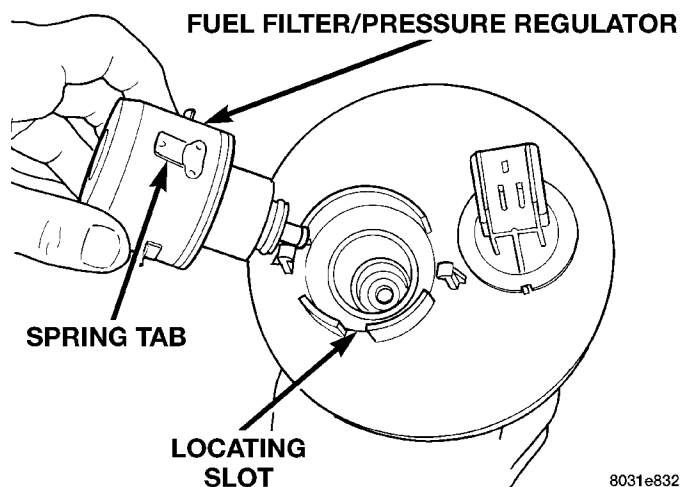

Fig. 20 Spring Tab In Locating Slot
(1) Insert Filter/Regulator into the opening in the fuel pump module, align the two hold down tabs with the flange.
(2) While applying downward pressure, rotate the Filter/Regulator clockwise until the the spring tab engages the locating slot (Fig. 20).
(3) Connect the fuel line to the Filter/Regulator.
(4) Lower vehicle from hoist.